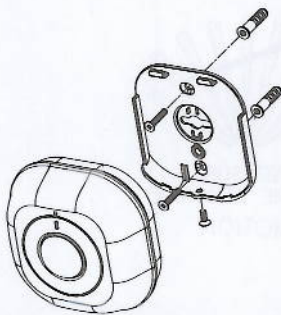
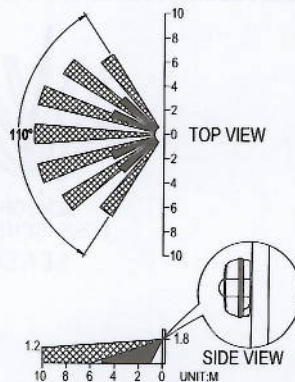
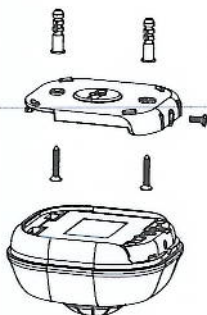
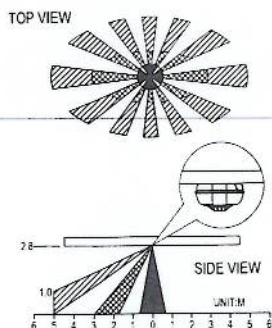

FIGURE 4a
FIGURE 4b
FIGURE 5a
FIGURE 5b
4. Two ways of mounting are applicable to the detector. Decide the detector is to be wall-mounted (FIGURE 4a) or ceiling-mounted (FIGURE 5a) based on the coverage angles shown in FIGURE 4b and FIGURE 5b. Hold the rear cover in position and mark the two mounting holes. Drill the holes, insert the plastic wall plugs and screw the rear cover to the wall or ceiling using the screws provided.
The recommended position for wall mounting is at the height of 1.8m (5.91 ft) from the floor. At this height, the optimum detection range is up to 10m (32.81 ft) with coverage range of 110 degrees (FIGURE 4b).
The recommended position for ceiling mounting is at the height of 2.8m (9.19ft) from the floor. At this height, the optimum detection range is up to 5m (16.41ft) with coverage range of 360 degrees (FIGURE 5b).